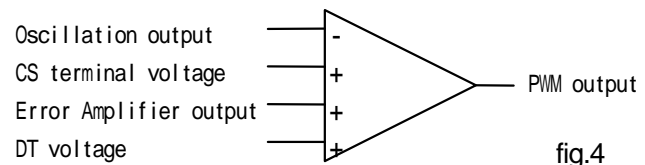
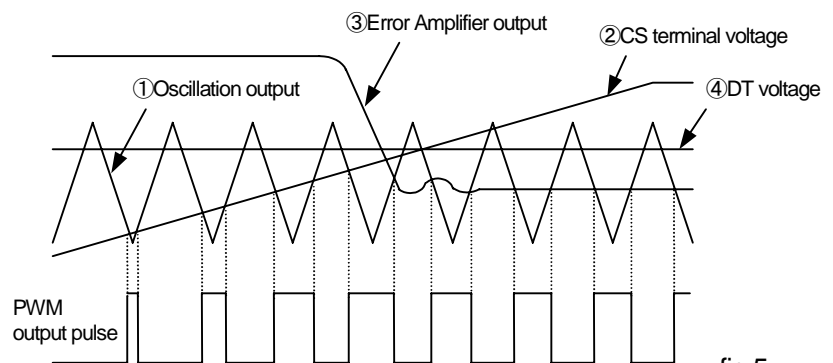

fig.4
fig.5
The PWM comparator has 4 input terminals. (Fig. 4) The oscillator output ① is compared with the CS terminal voltage ②, and the error amplifier voltage ③, then, the lower voltage between ② and ③ is preferred. While the preferred voltage is lower than the oscillator output, the PWM comparator output is LOW. While the preferred voltage is higher than the oscillator output, the PWM comparator output is HIGH (Fig. 5). When the IC starts, the capacitor connected to the
CS terminal is charged through the resistor connected to the power supply, and then the output pulses begin to widen gradually as the operation of soft start. In steady operation, the pulse width is determined based on the voltage of the error amplifier③, and then the output voltage is stabilized. The Dead Time control voltage (④DT voltage) of FA7700 and FA7701 has different characteristics to adjust the ICs to various types of power supply circuits being controlled and also to reduce external discrete components as many as possible. FA7700 is developed for fly-back circuits, and boost circuits, and the DT voltage is set in the IC so that the maximum output duty cycle is fixed to 80%(min.). (Maximum output duty cycle changes according to operation frequencies.— See P10 “Maximum output duty vs. temperature”.) It prevents magnetic saturation of the transformer or the like when a short-circuit in the output circuit occurs. FA7701 is developed for buck circuits, and it is designed for the maximum output duty cycle of 100%. The timing chart of PWM comparator is described in Fig. 5.
**(5) Soft start function**